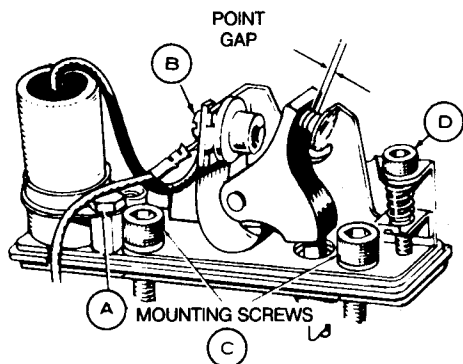

FIGURE 1. SETTING POINT GAP
3. Remove condenser (screw A) and detach condenser lead and coil lead (screw B). See Figure 1.
4. Remove two Allen screws (C) and lift breaker assembly from engine.
6. Adjust point gap by rotating crankshaft clockwise (facing flywheel) by hand until the points are fully open. Set the point gap (using flat feeler gauge) at 0.020 inch (0.51 mm) by adjusting the socket head screw (D) inward or outward (Figure 1). A 0.020 inch point gap is equivalent to 20° BTC. Make sure feeler gauge is clean and free of any grease, oil or dirt.
4. Connect an ohmmeter or a continuity test lamp set across the ignition breaker points. Touch one test prod to the coil lead terminal (screw B, Figure 1).